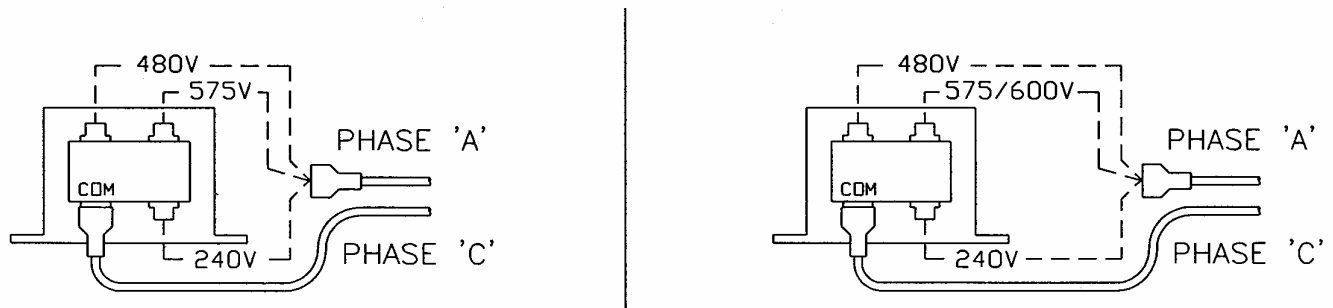

FIGURE 10.2
- Locate the Control transformer. Change the primary input connection in accordance with the voltage printed on the transformer. (Refer to Figure 10.2)